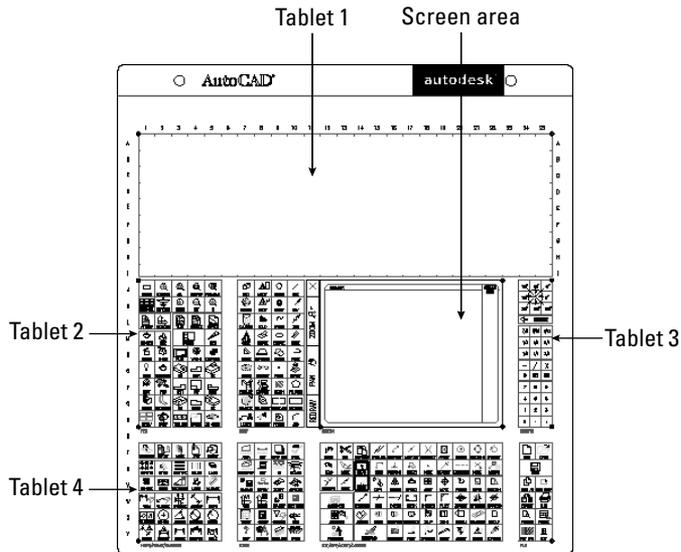

Figure 33-5: The standard digitizer Tablet menu and its four parts, which correspond to four sections in the menu file.
***TABLET1	The Tablet menu is divided into four parts. Each part represents a section of the menu area on your digitizing tablet. The parts are divided into small squares, each of which can contain a menu item. This first part is left blank for you to configure. Figure 33-5 shows the tablet and its four parts.